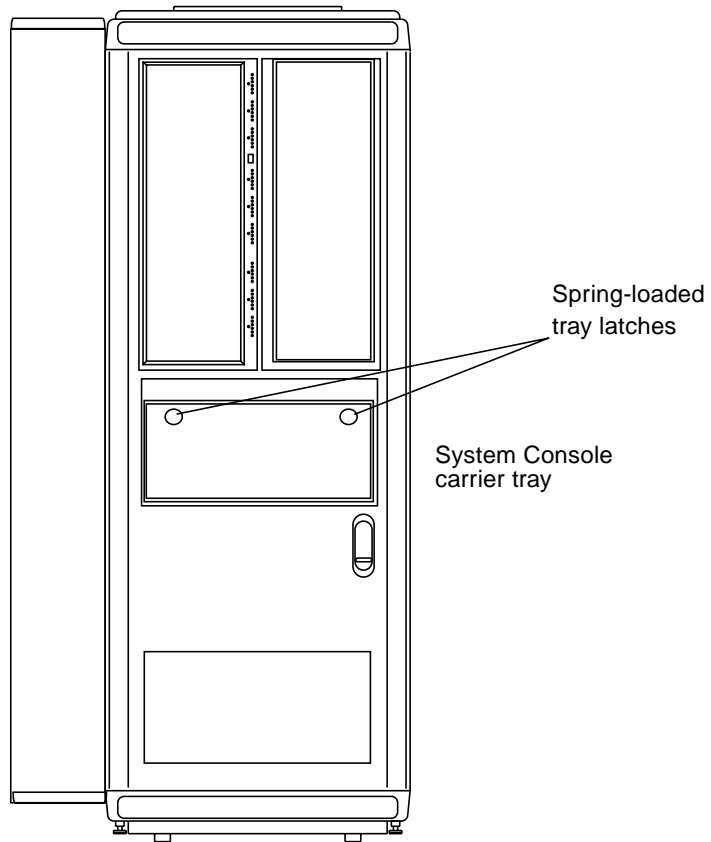

FIGURE 4-8 System Console Tray Location
2. **Open the carrier tray by turning the spring-loaded knobs on the tray clockwise to release the tray. See FIGURE 4-8.**